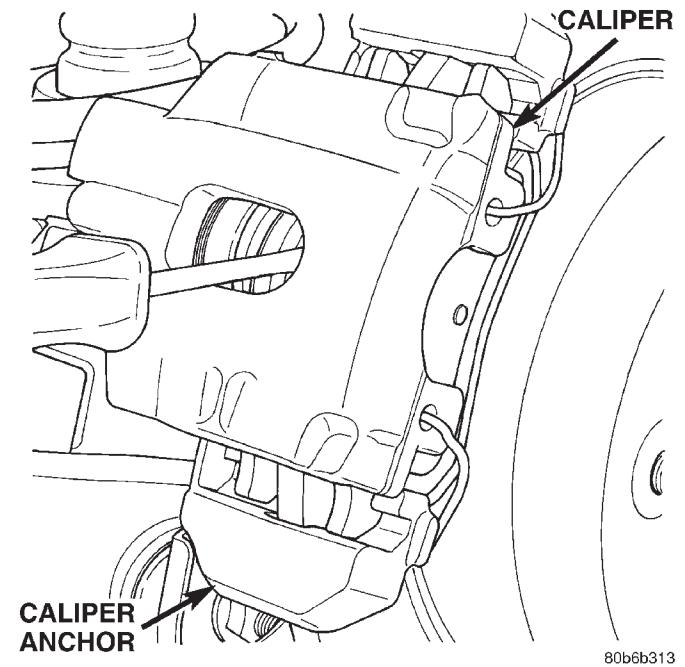

Fig. 33 Bottoming Caliper Piston
- (1) Raise and support vehicle.
- (2) Remove rear wheel and tire assembly.
- (3) Drain small amount of fluid from master cylinder brake reservoir with a **clean** suction gun.
- (4) Bottom caliper pistons into the caliper by prying the caliper over (Fig. 33).